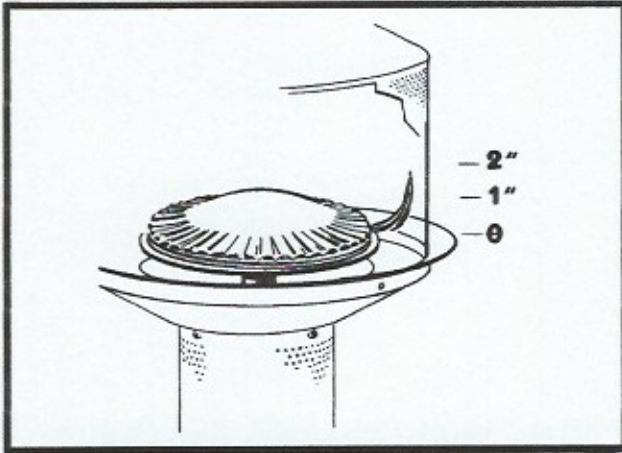

Figure 1. Normal Flame Position
- d. The flame pattern at the emitter grid should be visually checked whenever heater is operated (see figure 1.). If flames extend more than ½ inch beyond surface of the emitter grid or black soot is accumulating on the emitter grid or reflector, the heater should be turned off immediately. The heater should not be operated again until repairs are made.